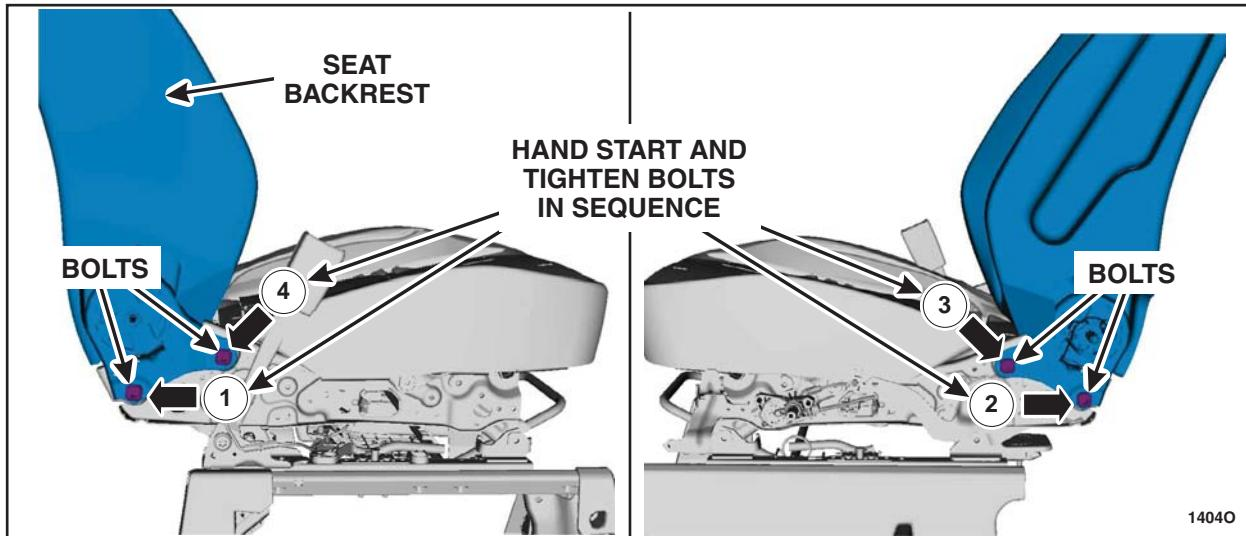

FIGURE 18
- a. Thread all four *new* torx bolts approximately four turns by hand in the sequence shown in Figure 18.
- b. Tighten torx bolts to 45 Nm (33 lb-ft) in the sequence shown in Figure 18.